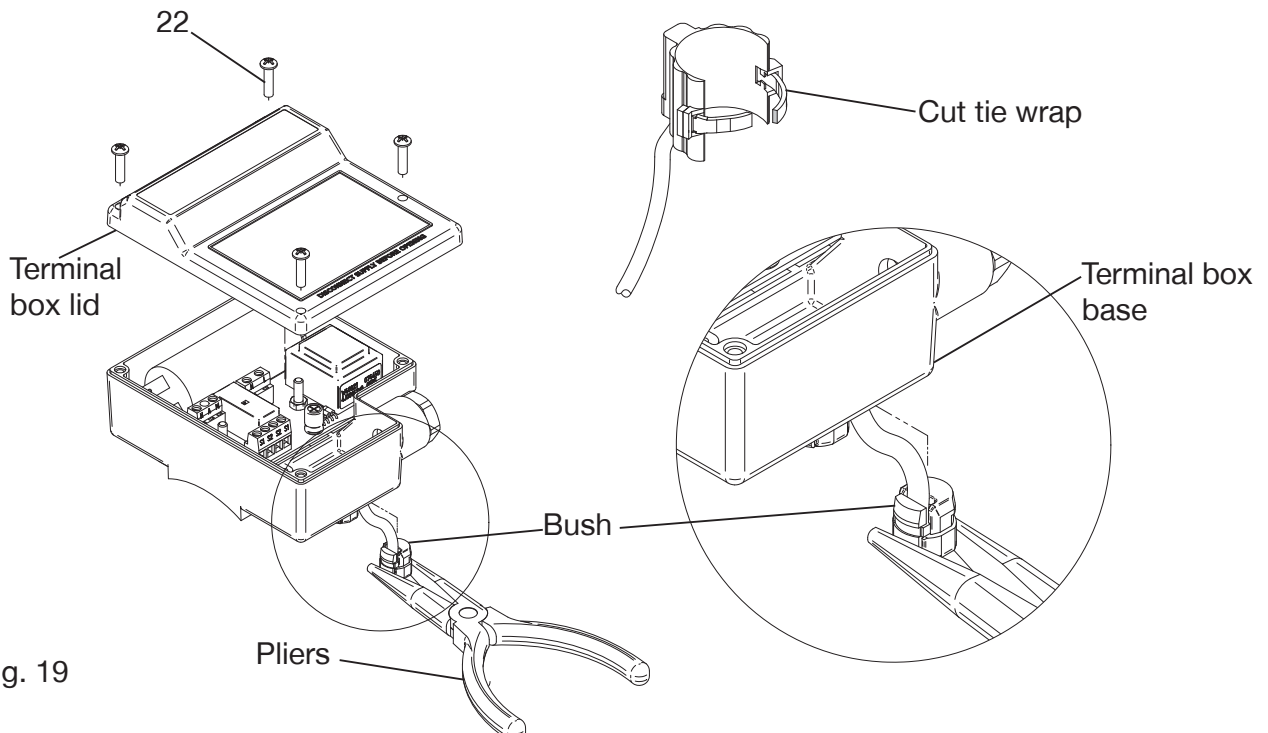

Fig. 19
- Remove the strain relief bush and reed switch cable by gripping with pliers (Fig. 19) and pulling downwards from the terminal box.
- Remove the existing reed switch by cutting the securing tie wrap and pulling away from the flow switch body (Fig. 19)